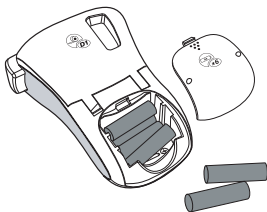

Figure 2
1. Slide the battery compartment cover away from the label maker. See Figure 2.
❶ Remove the batteries if the label maker will not be used for a long period of time.